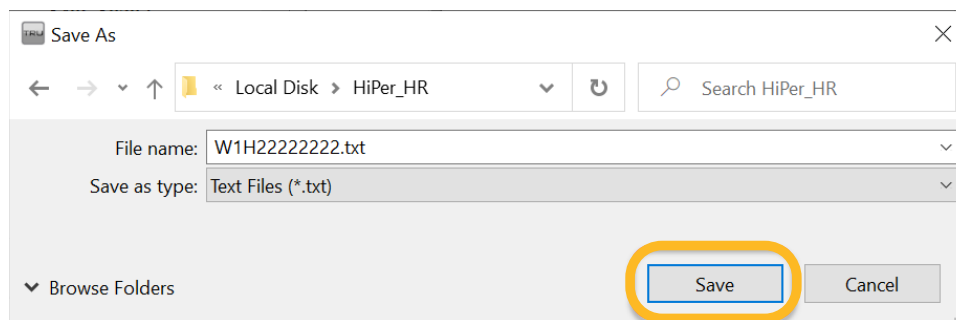

Figure 1-7: TRU-Save Receiver Info File
The **Save As** screen opens (Figure 1-7).
10. In the **Save As** screen (Figure 1-7):